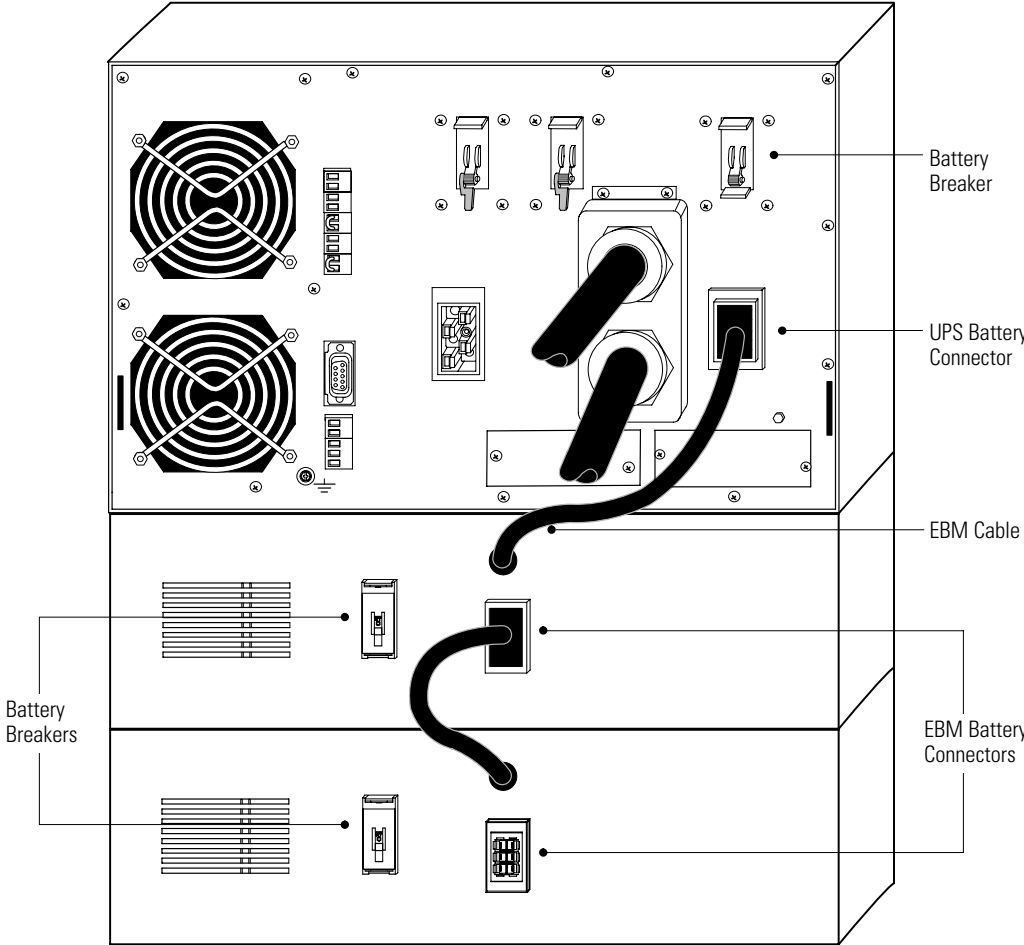

Figure 9. Typical EBM Installation
1. Verify that all battery circuit breakers are in the OFF (O) position (see Figure 9).
2. Plug the EBM cable(s) into the battery connector(s) as shown in Figure 9. Up to four EBMs may be connected to the UPS.
1. Switch all battery circuit breakers to the OFF (O) position (see Figure 9 on page 21).
5. Plug the EBM cable(s) into the battery connector(s) as shown in Figure 9 on page 21.
7. Switch all battery circuit breakers to the ON (I) position.